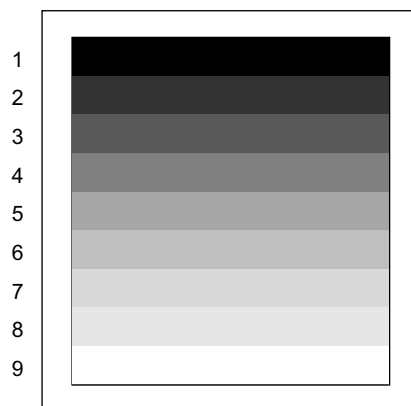

Figure 1 Check Pattern
- 1: Check Pattern : same as Figure 1